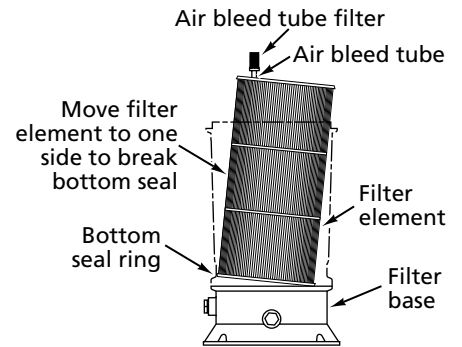

Figure 8
- Rock filter element to one side (See Figure 8) to free seal.